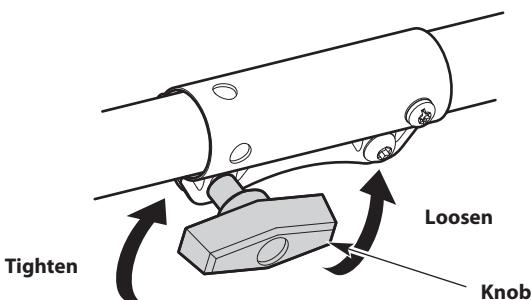

Fig. 5
3. Turn the knob counterclockwise to loosen the coupler (Fig. 5).
- Turn the knob clockwise to tighten the coupler (Fig. 5).
- Turn the knob counterclockwise to loosen the coupler (Fig. 5).